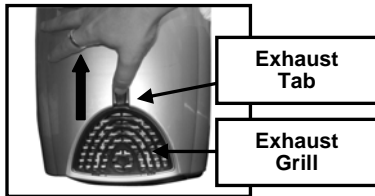

Fig. 25
1. While pushing up the exhaust tab, pull out the exhaust grill. (Fig. 25)